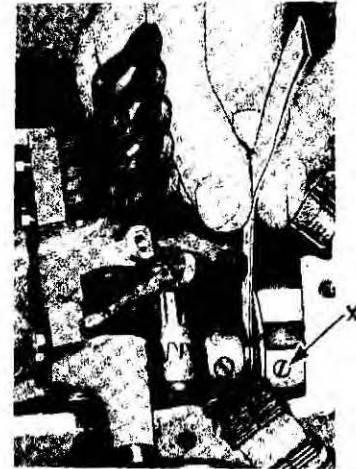

Fig. 236. Locating Sprocket in Relation to Gear
Slide sprocket on to arm shaft with **timing notch**, atop flange edge, facing take-up lever end of machine. Locate set screw nearest notch on flat of arm shaft and fasten screw **X**, **Fig. 236** lightly.
To insure sufficient clearance for heat expansion between sprocket and rear arm shaft bushing, sprocket must be located as close to the bank of cams as is possible without high points of cams striking or rubbing against flange of sprocket. For maximum clearance use two strips of letter paper, as illustrated in **Fig. 236**, to make sure that high points of cams do not interfere. This clearance should be checked for at least ten (10) complete turns of the hand wheel.